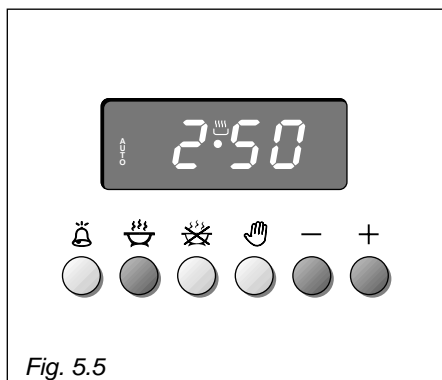

Fig. 5.5
1. Set the length of time you need to cook the food by pushing the  button and the  button to advance, or  to go back if you have passed the desired time (fig. 5.5). The **AUTO** and the  symbol will be on.